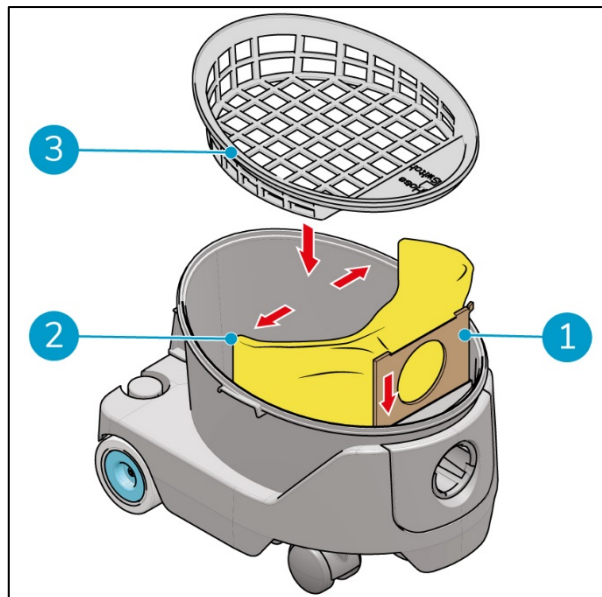

Figure 11
11. Slide the cardboard collar of the new filter bag (Figure 11, pos 1) fully into the slots to insert the dust bag.
12. Unfold the dust bag (Figure 11, pos 2).
13. Place back the filter bag (Figure 11, pos 3).